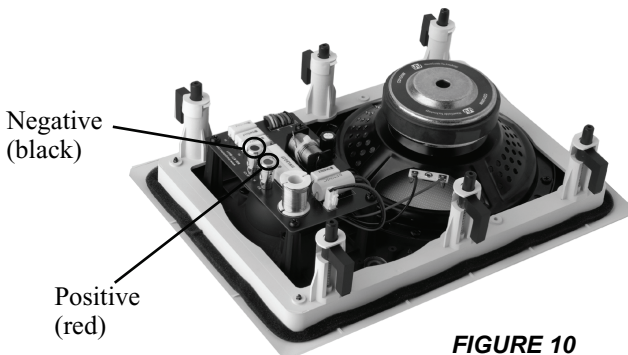

FIGURE 10
Step 5. You are now ready to install the frame. Remove the paint mask. **Be careful not to touch the speaker cones and tweeters when removing the paint mask in order to prevent any damage.** Remove the baffle from the frame and fasten the frame to the pre-construction bracket. Attach the speaker cable to the speaker by pressing down on the red (+) or black (-) gold-plated push terminals and inserting the red wire in the red terminal and the black wire in the black terminal. See figure 10. Make sure that none of the strands from the black and red wires are touching each other. This can create a short circuit that can damage your electronics. Mount
Step 11. You are now ready to install the frame. Remove the paint mask. **Be careful not to touch the speaker cones and tweeters when removing the paint mask in order to prevent any damage.** Remove the baffle from the frame and fasten the frame to the drywall. Index the mounting tabs to make sure that all tabs will clear the opening. Insert the frame in the wall and tighten the tabs with the screws on the front of the baffle. Attach the speaker cable to the speaker by pressing down on the red (+) or black (-) gold-plated push terminals and inserting the red wire in the red terminal and the black wire in the black terminal. See figure 10. Make sure that